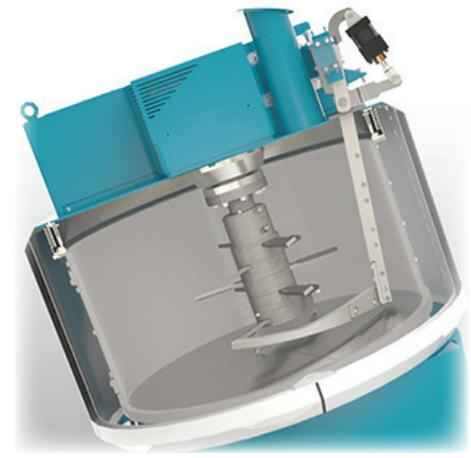

Figure 2. Cleaning position. Wall scraper angled inward 7° to allow larger gap distance for cleaning and maintenance.
2. In the cleaning position the hydraulic-driven SmartClean® wall scraper is articulated to a 7° angle inward away from the pan wall and floor. *Figure 2*